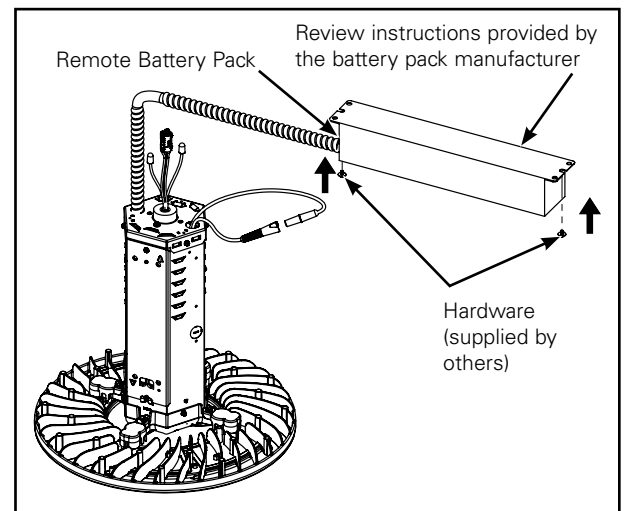

Figure 1.
1. Mount luminaire and remote battery pack (use hardware appropriate for the structure the battery is installed, not provided with the fixture) (Figure 1).